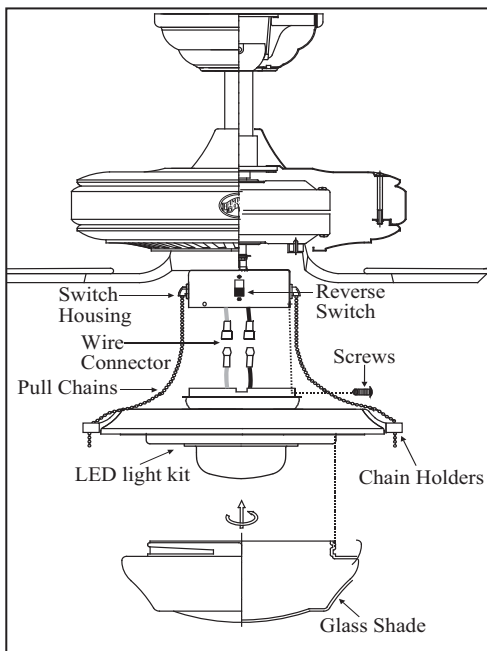

Figure 20
2. Carefully push all wires back into the switch housing. Attach the light kit fitter by aligning its keyhole slots with the three screws holes and reversing switch on the side of switch housing. Tighten the three screws securely to prevent the light kit from vibrating loose. (Fig. 20)
3. Pass the two pull chains on the switch housing through the chain holders located on the light fitter, install the fobs to the pull chains. (Fig. 20)
4. Raise glass shade up against the light kit and secure it to fan by turning glass clockwise until snug. **DO NOT OVERTIGHTEN**. (Fig. 20)